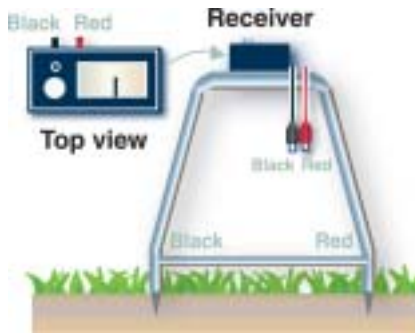

Figure 1 - Pulser receiver set-up
- A receiver **B** mounted on an A-frame with a visual analog meter points to the source of the voltage. When the receiver is properly mounted to the A-frame, red and black leads should comfortably plug into the receiver. (see figure 1 on page 2)